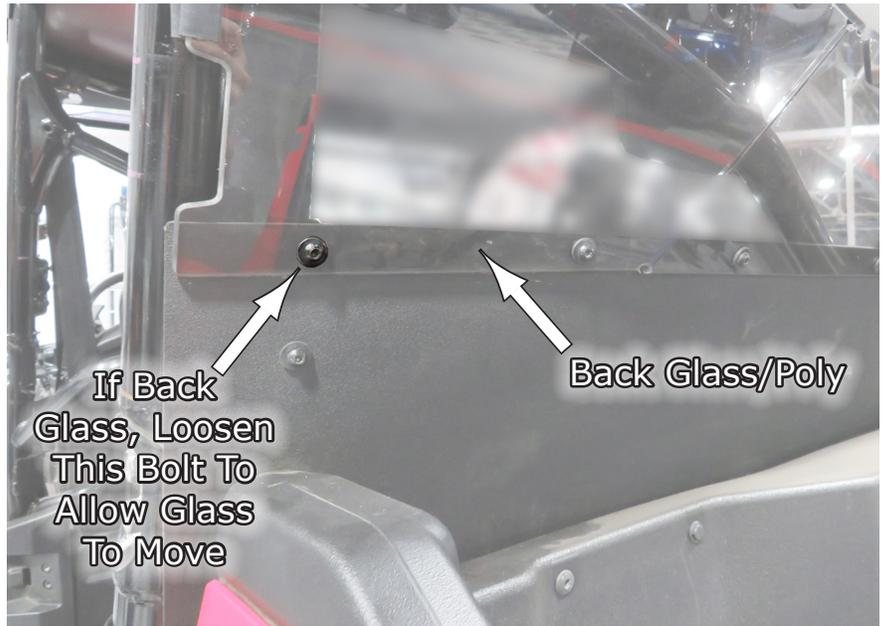

Fig.1
1. First, if you have **Back Glass** like we show in **Fig.1**, you will need to loosen the lower corner bolt allowing the glass move a little while installing your **Bed Rack**. You will tighten it back after the installation. Repeat the same for the opposite side. See **Fig.1**.